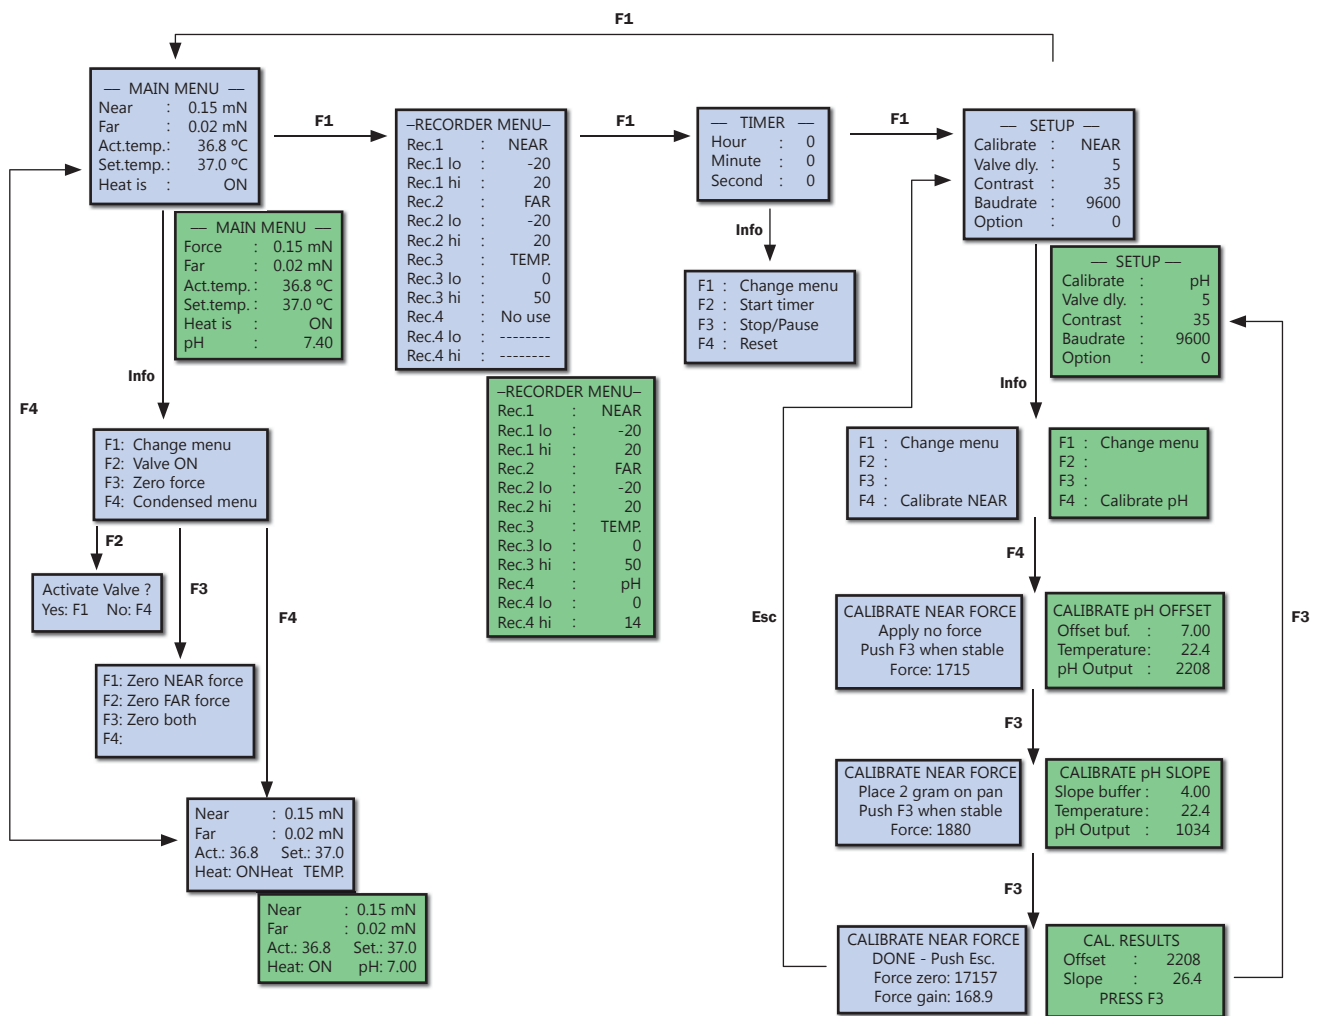

Figure 3.1 Menu overview: the green panels indicate the menu appearance/options when the optional pH-meter is installed.
5. Go to the Setup menu on the Myo-Interface and choose to calibrate the myograph force (see “Figure 3.1 Menu overview” on page 16). Press F4 to start calibration